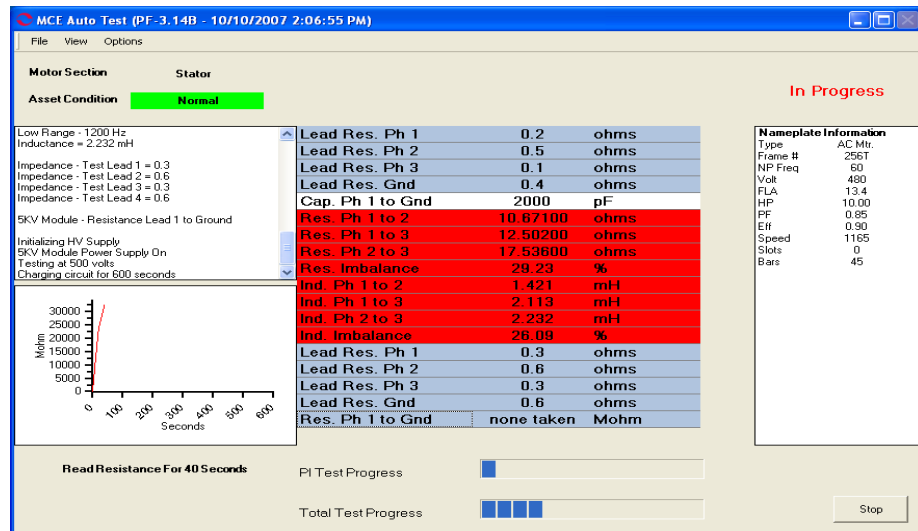

Figure 5-6: MCE Auto Test Window - PI Test
The tester automatically proceeds from the Standard test to the Polarization Index (PI) test. A status bar displays the testing progress. During the Standard test there is one Total Test Progress bar. When the PI test is performed there is a PI progress bar, a Total Progress bar, and a graph in the lower left displaying the test results. See Figure 5-6.